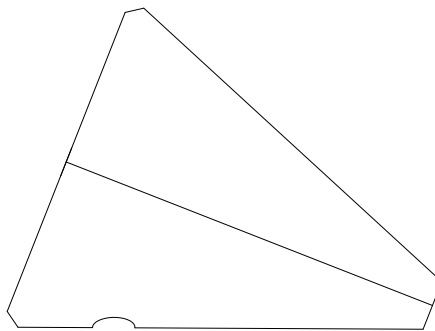

Figure 1- Orientation of the prism on CMM table.
3. Place the prism on the lens cloth so that surface 1 is facing down. Surface 1 is the side that has the repaired chips. See Figure 1.
4. Using the CMM, characterize the prism and the plane of the center of mass for the prism. Mark this position on the edge of the prism, at regular intervals with a fine tip sharpie marker. A small dot will do. This will assist in the placement of the weldment. Refer to Figure 1 above.